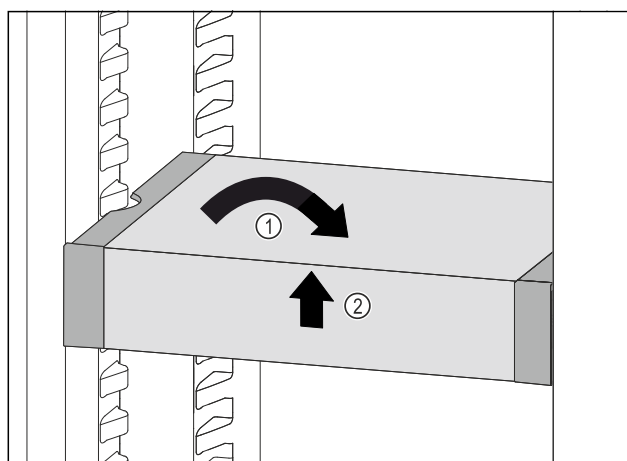

Fig. 97
- Set VarioSafe straight. Fig. 97 (1)
- Lift VarioSafe at the front. Fig. 97 (2)